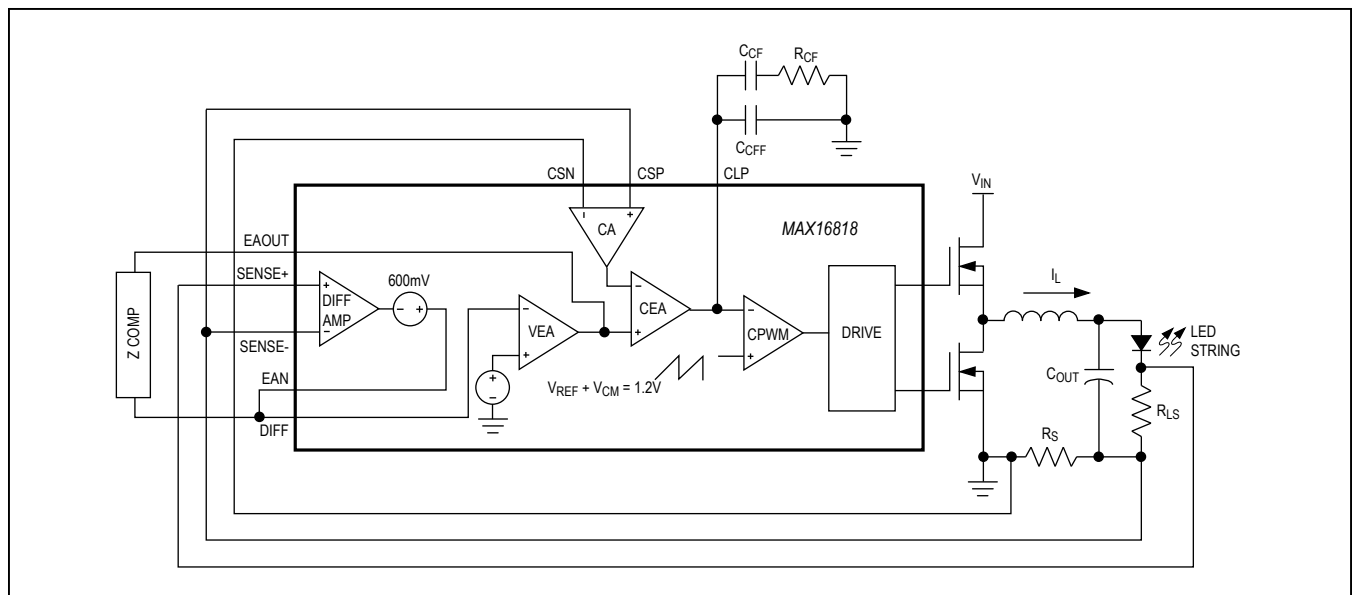

Figure 7. MAX16818 Control Loop
The MAX16818 uses an average-current-mode control scheme to regulate the output current (Figure 7). The main control loop consists of an inner current loop for controlling the inductor current and an outer current loop for regulating the LED current. The inner current loop absorbs the inductor pole reducing the order of the outer current loop to that of a single-pole system. The current loop consists of a current-sense resistor (RS), a current-sense amplifier (CA), a current-error amplifier (CEA), an oscillator providing the carrier ramp, and a
PWM comparator (CPWM) (Figure 7). The precision CA amplifies the sense voltage across RS by a factor of 34.5. The inverting input to the CEA senses the CA output. The CEA output is the difference between the voltage-error amplifier output (EAOUT) and the amplified voltage from the CA. The RC compensation network connected to CLP provides external frequency compensation for the CEA. The start of every clock cycle enables the high-side drivers and initiates a PWM on-cycle. Comparator CPWM compares the output voltage from the CEA with a 0V to 2V ramp from the oscillator. The PWM on-cycle terminates when the ramp voltage exceeds the error voltage. Compensation for the outer LED current loop varies based upon the topology.
The MAX16818 has a transconductance current-error amplifier (CEA) with a typical g_m of 550 μ S and 320 μ A output sink- and source-current capability. The current-error amplifier output CLP serves as the inverting input to the PWM comparator. CLP is externally accessible to provide frequency compensation for the inner current loops (Figure 7). Compensate CEA so the inductor current negative slope, which becomes the positive slope to the inverting input of the PWM comparator, is less than the slope of the internally generated voltage ramp (see the *Compensation* section).
The DIFF AMP facilitates remote sensing at the load (Figure 7). It provides true differential LED current (through the R_{LS} sense resistor) sensing while rejecting the common-mode voltage errors due to high-current ground paths. The VEA provides the difference between the differential amplifier output (DIFF) and the desired LED current-sense voltage. The differential amplifier has a bandwidth of 3MHz. The difference between SENSE+ and SENSE- is regulated to 0.6V. Connect SENSE+ to the positive side of the LED current-sense resistor and SENSE- to the negative side of the LED current-sense resistor (which is often PGND).